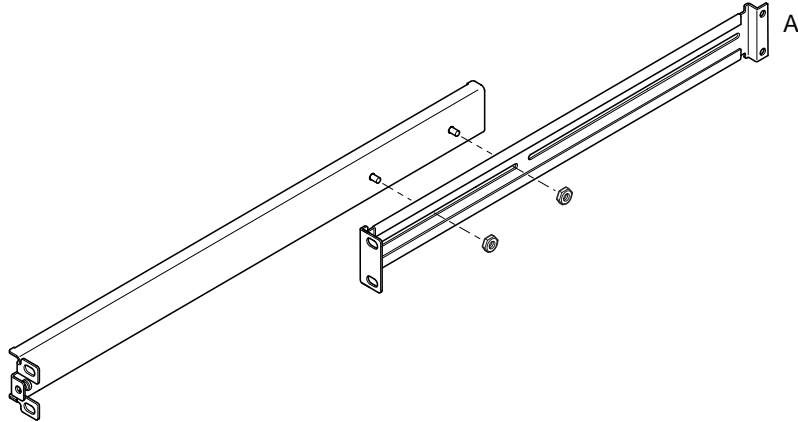

FIGURE 5-2 Positioning the Slide Mounts for a Sun StorEdge 72-Inch Tall Rack
1. Position the two parts of the slide so that the double-angled ear (A) is in the correct position for the rack you are installing into.
- For the Sun StorEdge 72-inch tall (19-inch wide) rack, the double-angled ear (A) must be to the rear (see FIGURE 5-2).